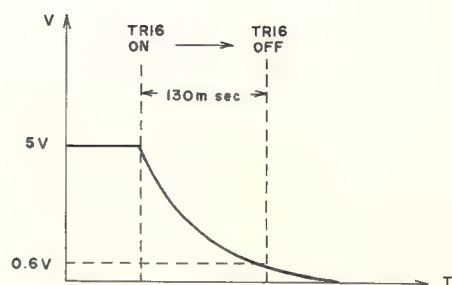

Fig. 5-6 Voltage at the Collector of TR16
- 3) In the cases when the CUT or UP button is depressed or Auto Lead-in is activated, IC5 pin ④ becomes "H" (IC5 pin ⑤ is still "H") so TR17 & 18 are turned "OFF" and TR15 & 16 are turned "OFF" after 130 msec (so that MUTE works before the Tone Arm rises) by C37 as shown in Fig. 5-6.